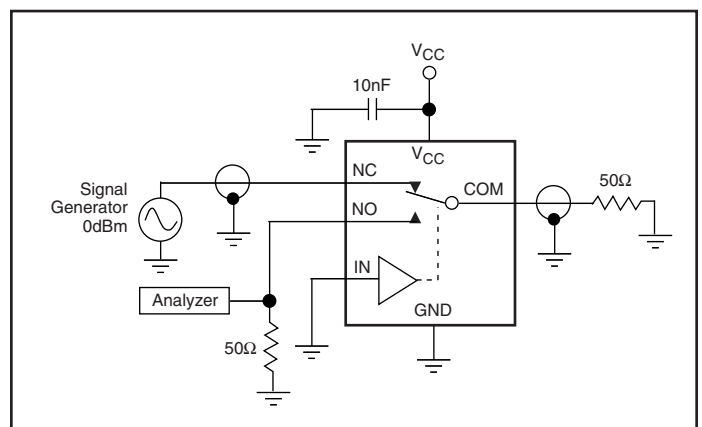

Figure 4. Crosstalk
- Off Isolation = $20\log_{10} [V_{COM} / (V_{NO} \text{ or } V_{NC})]$. See Figure 4.